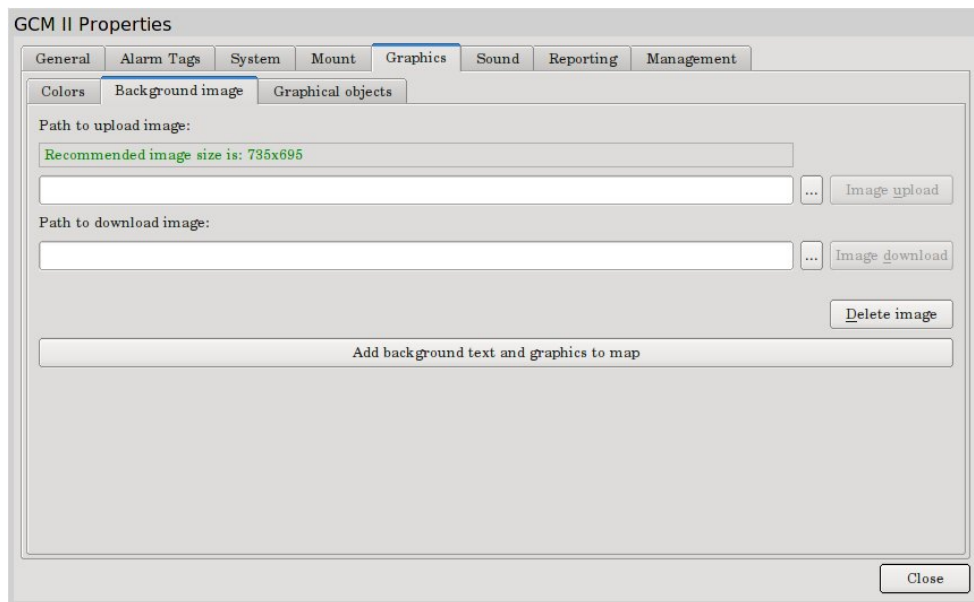
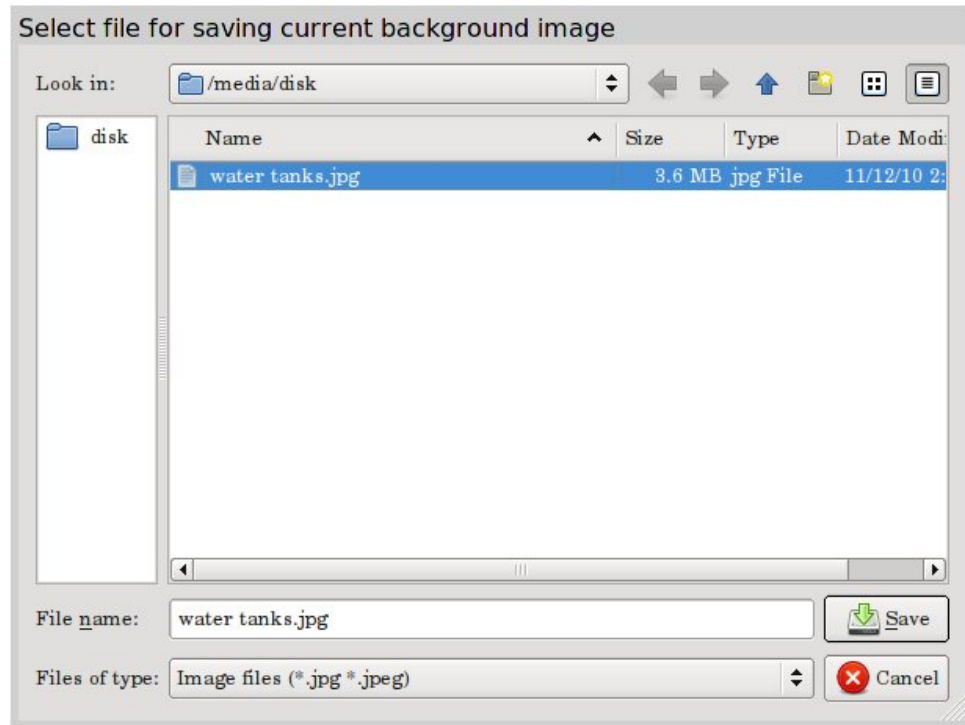
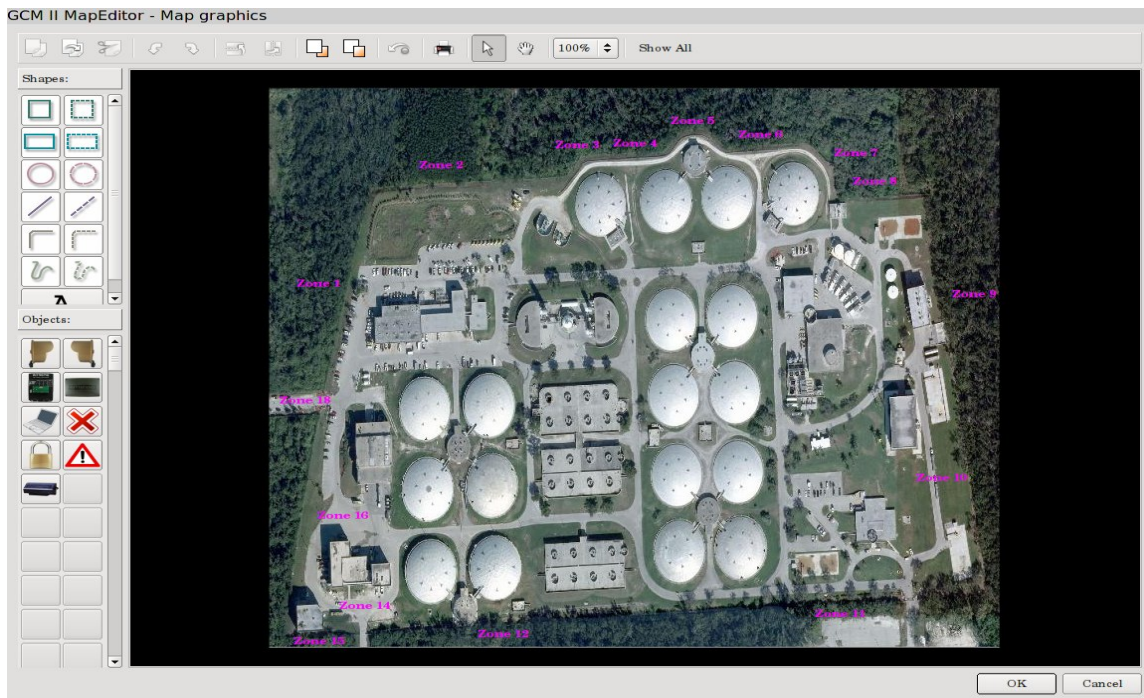

Figure 20 – Background Image
Figure 23 – Path to Download Image
Figure 24 –GCM II Map Editor for Static Graphics
Selecting the “Background Image” tab will open the screen as shown in Figure 20. This tab is used to upload, download or delete the graphical image that will be used to monitor the system. The recommended size is gauged by the monitor being used. Only one (1) background image is supported and must be a *.JPG format. *Note: be sure the drive has been correctly mounted as stated in Section 5.2.4.*
To save the background image that may already exist on the GCM II or to save an image that was just uploaded, select the “Browse” button next to “Image Download” as shown in Figure 20 to open the “Select File for Saving Current Background Image” dialog box as shown in Figure 23.
Selecting the “Add Background Text and Graphics to Map” button as shown in Figure 20 will open the GCM II Map Editor – Map Graphics screen as shown in Figure 24. From here static shapes, static graphical objects and static text can be added to the map. In the case of Figure 24, static text has been added.